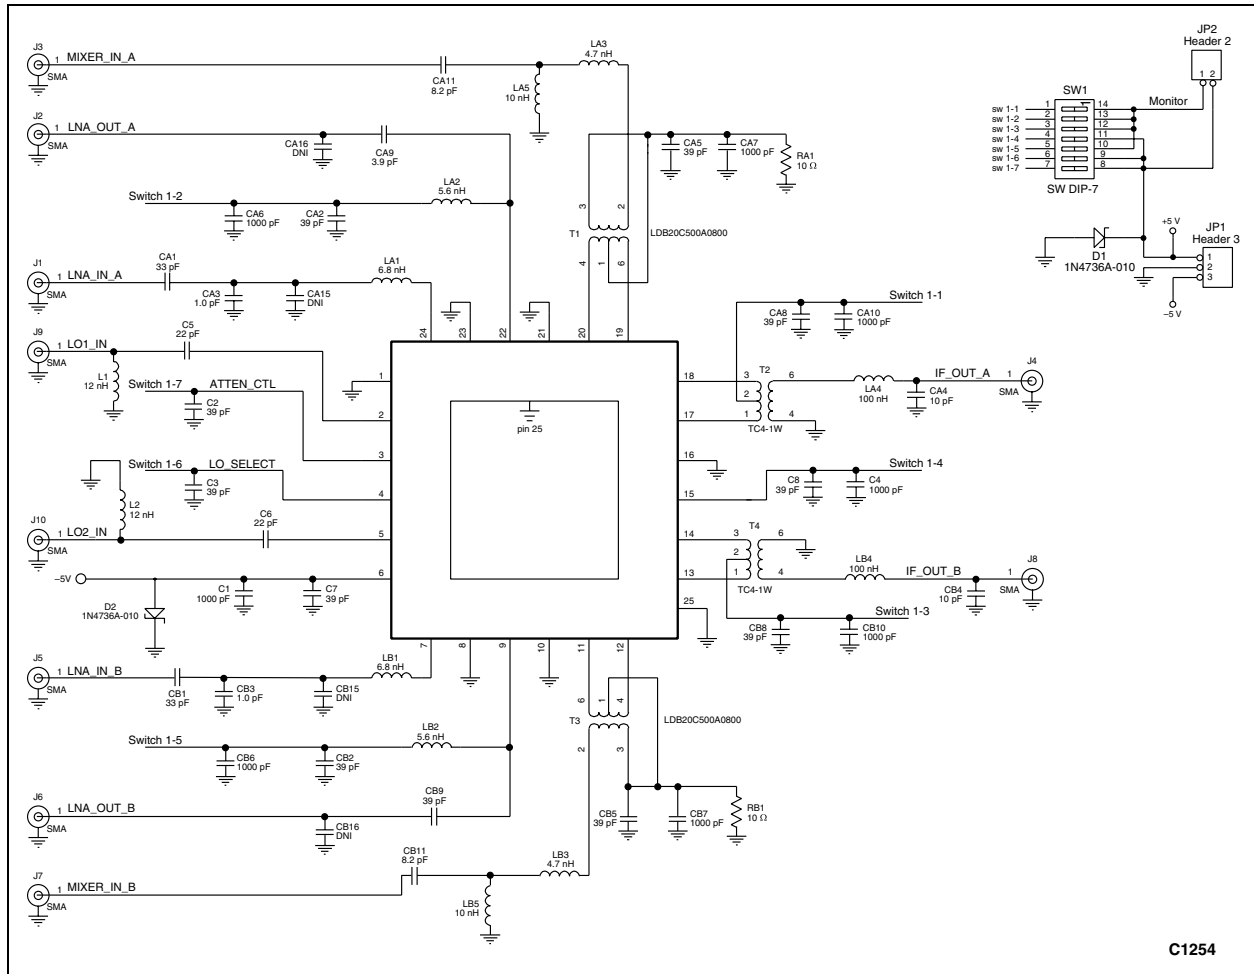
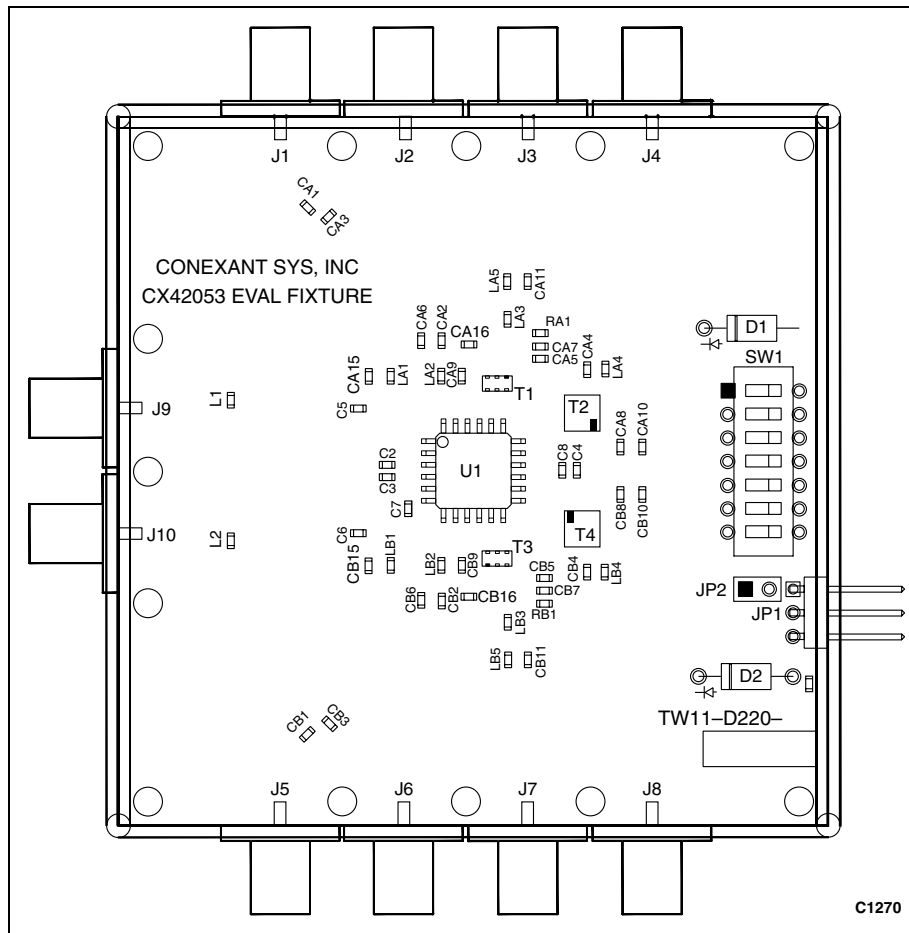

Figure 10. CX42053 Application Schematic
Figure 11. CX42053 Evaluation Board Layout
<p>Note 1: In a 50 Ω system obtained with external matching components on input/output ports. See Figure 10 and Table 6 for matching network configuration and element values.</p> <p>Note 2: Include RF balun and IF transformer losses.</p>
Note 1: In a 50 Ω system obtained with external matching network on LNA and mixer input ports. See Figure 10 and Table 6 for network elements and frequency ranges.
The CX42053 Evaluation Board is used to test the CX42053 mixer and LNA performance. The CX42053 Evaluation Board schematic diagram is shown in Figure 10. Table 6 contains I/O matching network components used in the schematic. The schematic shows the basic design of the Evaluation Board for the RF range of 800 to 1000 MHz. The IF matching circuitry has been optimized for 60 to 130 MHz. Figure 11 displays the Evaluation Board layout.
3. The inclusion of external bypass capacitors on the VSS and VDD voltage inputs of the LNAs and mixers is recommended. The application schematic in Figure 10 shows these capacitors (1000 pF and 12 pF) in shunt with each control switch, as well as the VSS supply. The 1000 pF capacitor serves as a low frequency bypass, while the 12 pF capacitor prevents any RF signals from coupling on to the DC supply voltages. It is recommended that the bypass capacitors be placed as close as possible to the CX42053 for best results.
<p>Note 1: Standard Evaluation Kit TW11-D222 is optimized for the 850 to 1000 MHz frequency range. The schematic diagram shown in Figure 10 applies to Evaluation Kit TW11-D222.</p> <p>Note 2: For the stated values, CA4 and CB4 need to be moved to the side of LA4 and LB4 closest to the CX42053.</p>